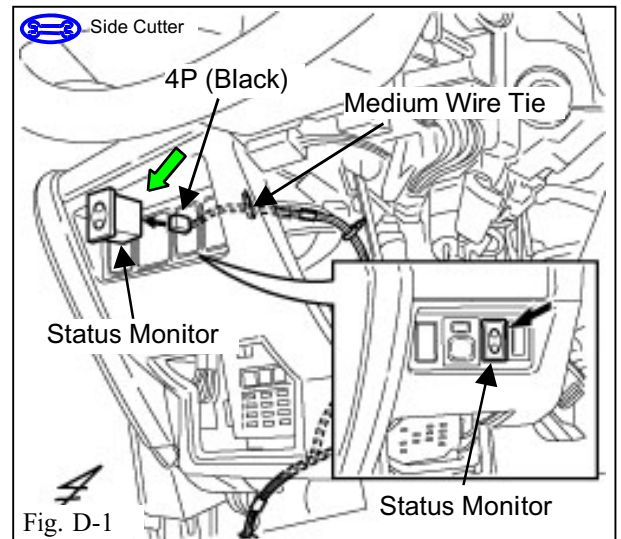

Fig. D-1
1. Connect the V3 harness' black 4P connector to the status monitor. (Fig. D-1)
2. Insert the status monitor into the knockout opening in the dash cover. (Fig. D-1)
3. Secure the V3 harness to the vehicle harness with one medium wire tie. (Fig. D-1)